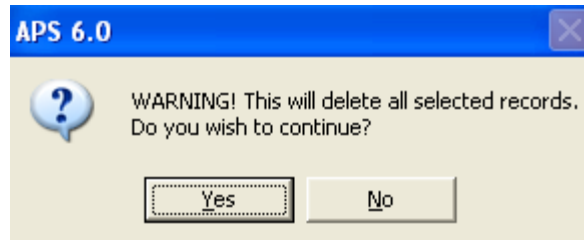

Figure 123: Confirm Delete All Message
2. Delete all, you will be prompted with a message asking to confirm, click Yes and all records will be deleted, click the No button and the Delete Tagged Records Information/ Action Message will display giving you the choice to select a different method of deletion or to cancel the job. This screen is shown in Figure 123: Confirm Delete All Message.